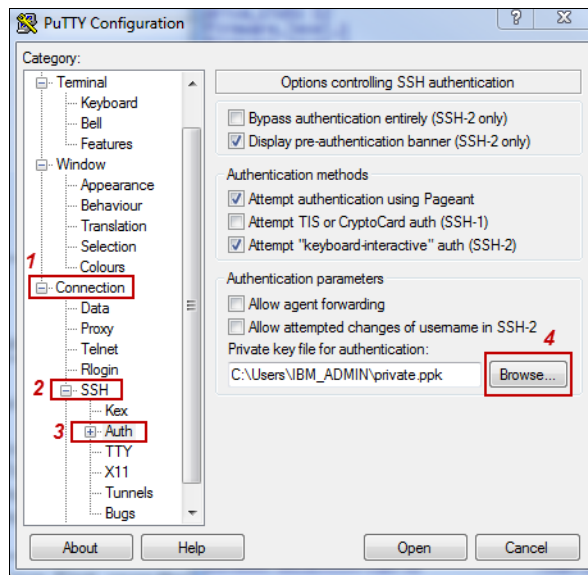

Figure 8-11 Set private key for PuTTY SSH session
3. Configure the private key for this session by making the selections, as shown in steps 1, 2, and 3 of Figure 8-11. Click **Browse** (step 4) to locate the private key file.